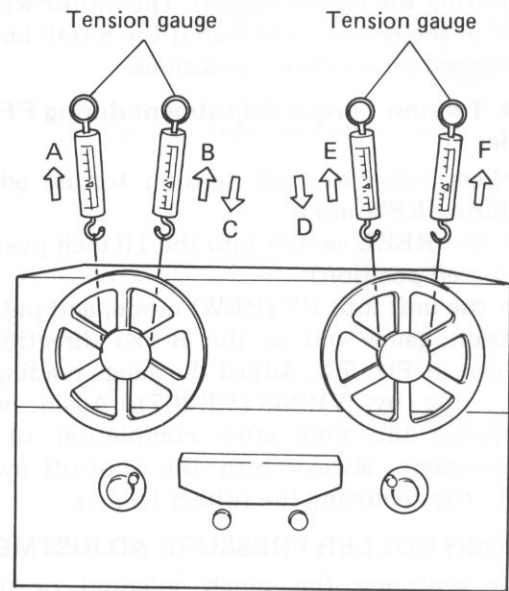
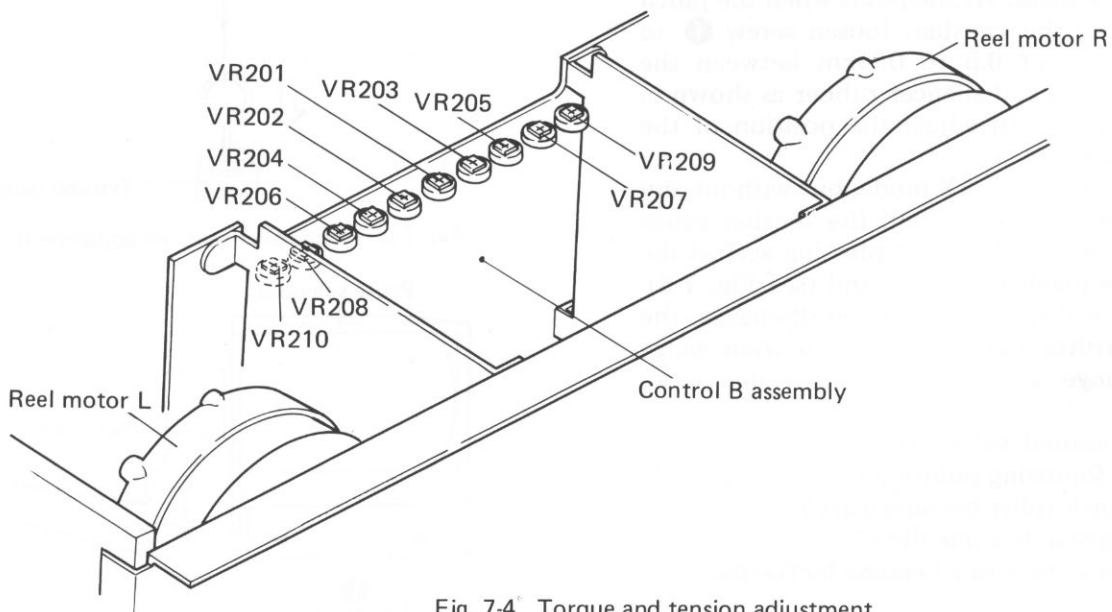

Fig. 7-3 Torque and tension adjustment
Fig. 7-4 Torque and tension adjustment
2. Wind a piece of thread onto an empty No.7 reel (hub diameter of 60mm), and tie the other end of the thread to a tension gauge as shown in Fig. 7-3.
2. Start the unit in FWD PLAY (REV PLAY) mode, and "take-up" the tension gauge in the D (C) direction (tension gauge "fed in" as shown in Fig. 7-3. Adjust VR203 (VR204) in the Control B Assembly shown in Fig. 7-4 so that the tension gauge reads 240 – 260g. Take-up torque is increased by turning these VRs clockwise, and decreased by turning counter clockwise.
2. Put the unit into FWD PLAY (REV PLAY) mode. Pull the tension gauge in the B (E) direction as shown in Fig. 7-3, and read off the gauge value. Adjust the gauge reading to 95 – 105g by means of VR210 (VR209).
2. Put the unit into FF mode, and have the tension gauge "taken up" (i.e. "fed in") in the D (C) direction as shown in Fig. 7-3. Adjust the tension gauge reading to 440—460g by VR205 (VR206). When switching the unit over to stop mode after completing the adjustment, set the shut-off switch to the OFF position (by removing the rubber bands). The motor will rotate in the reverse direction if the STOP button is pressed under these conditions.
2. Put the unit into FF (REW) mode, and pull the tension gauge out in the B (E) direction as shown in Fig. 7-3. Adjust the gauge readings to 60—65g by VR208 (VR207). Again, when stopping the unit after completion of the adjustment, always turn the shut-off switch OFF (by removing the rubber bands).